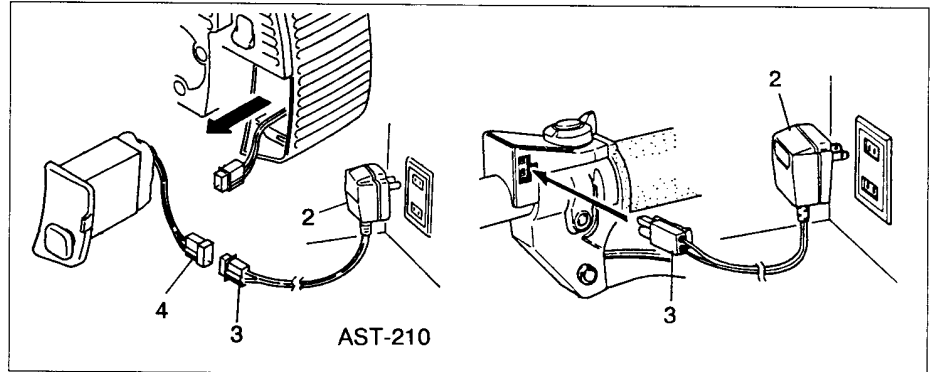

Fig. 2-3
- Plug the battery charger (2) into a household electrical outlet and connect the electrical coupling (3) to the coupling on the top of the throttle lever assembly or battery coupling (4). (Fig. 2-3)